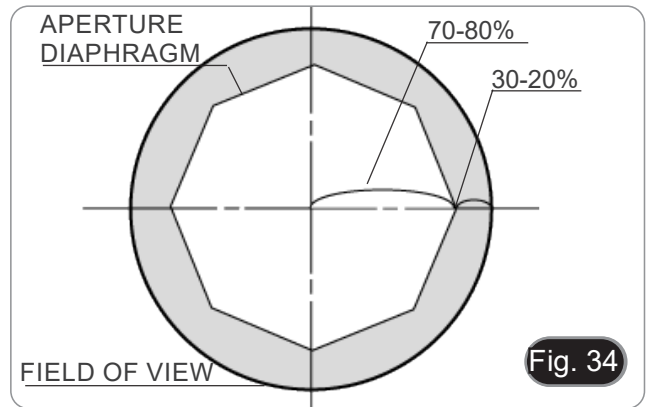

Fig. 34
- With low contrast specimens set the numerical aperture value ⑤ (printed on the condenser ring) to about 70%-80% of the objective's N.A. (Fig. 33). If necessary, remove one eyepiece and, looking into empty eyepiece sleeve, adjust the condenser's ring in order to obtain an image like the one in Fig. 34.
- With low contrast specimens move the diaphragm lever to about 70%-80% of the objective's N.A. If necessary, remove on eyepiece and, looking into empty sleeve, adjust the lever in order to obtain an image like the one in Fig. 34.